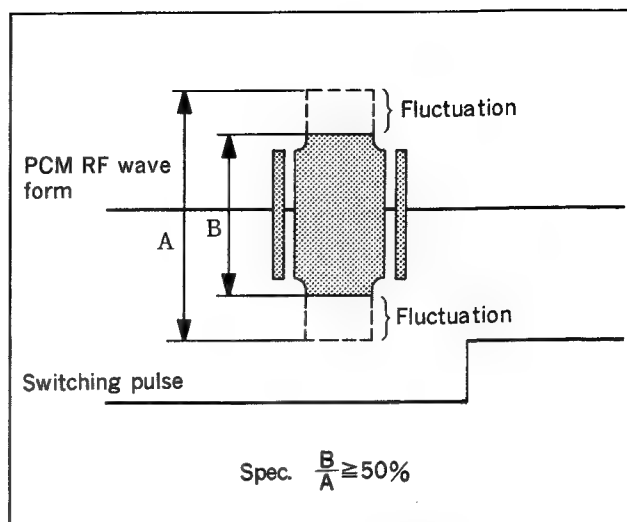

Fig. 6-9-13 Confirmation of PCM RF wave form
If not to meet the specification, perform the following adjustment again. (See Fig. 6-9-13.)
20. Perform step 14 thru. step 18, and confirm the specification of the PCM wave form at the video inserted portion is met (specification is the same as Fig. 6-9-13).